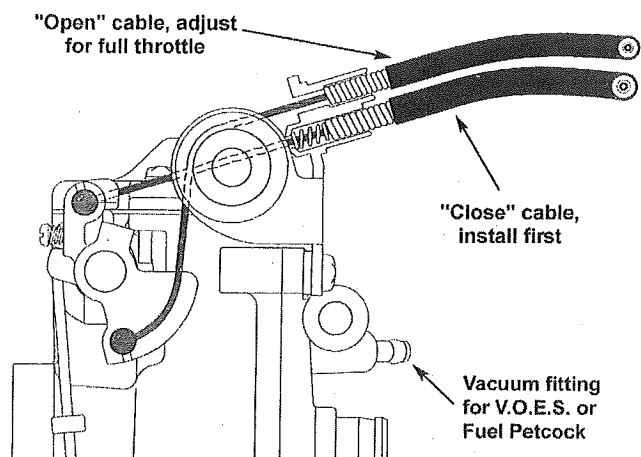

Figure 2
- B. Connect the throttle cables to the carburetor bell crank by first installing the closing cable, then the opening cable (Figure 2).